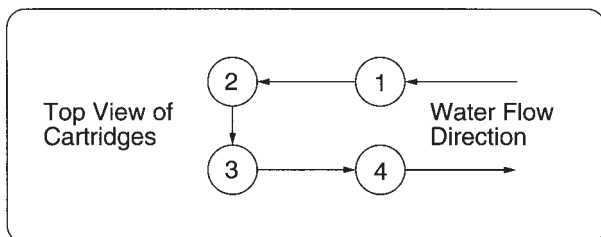

Figure 6 Cartridge Sequence
1. Clean the sealing surfaces of the heads and the top of the canisters with a clean, wet cloth. Install the O-rings in the O-ring grooves of the 4 canisters. Wet the O-rings with water and install a D0835 or D0836 Pretreatment Cartridge, with the small opening up, into a canister and install this canister at position 1 (Figure 6). This is done by depressing the thumb lever and rotating the canister handle ring 1/4 turn to the right. Install the remaining canisters empty.
7. Install the remaining cartridges as shown in Figure 6 and Table 2.